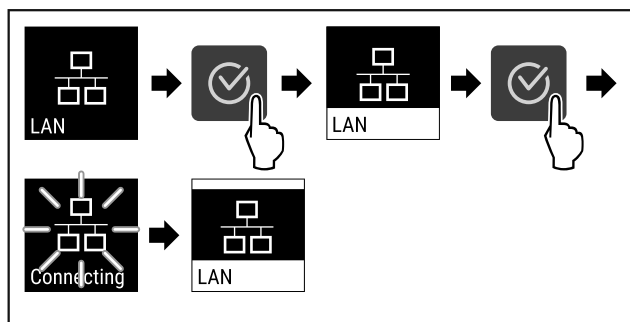

Fig. 81
- Complete the steps (see Fig. 81).